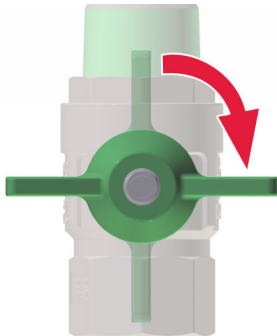

Fig. 26: Closing the main shut off valve
1. ➔ Ensure that all main shut off valves (Fig. 26) and fill and drain cocks have been closed.